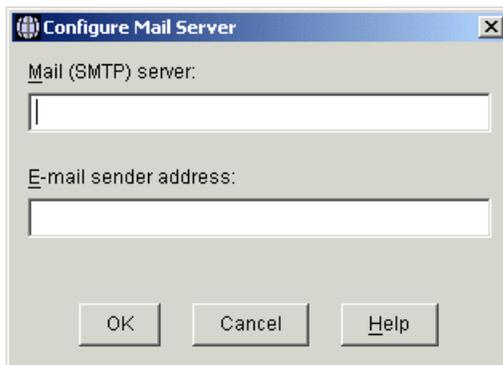

Figure 6-2 Configure Mail Server window
2. The Configure Mail Server window appears, as shown in Figure 6-2: